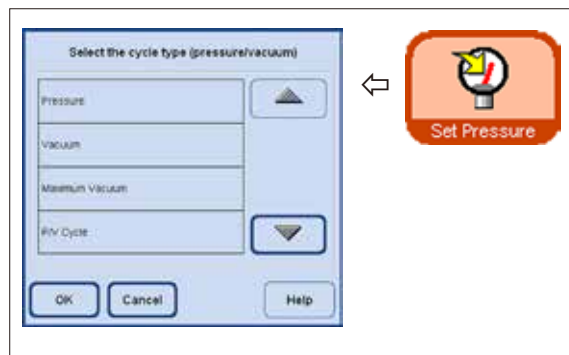

Fig. 133
- A pressure cycle type can be selected. To do this, press the **SET PRESSURE** button and call up the **SELECT THE CYCLE TYPE** entry window (Fig. 133).